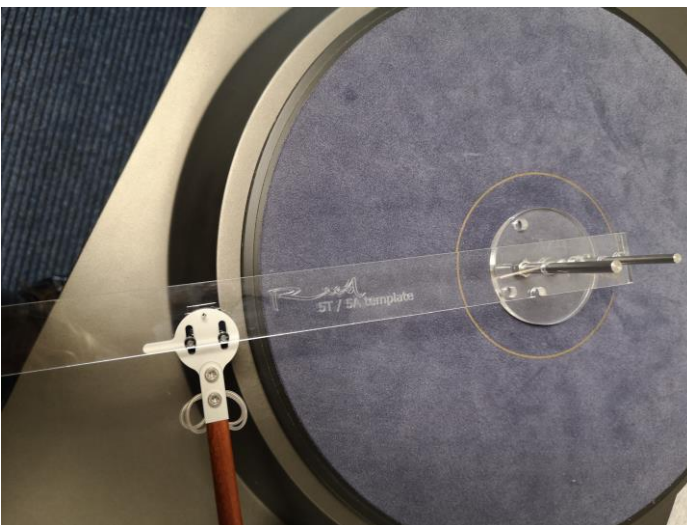

Figure 26
- Check tonearm setup using Reed 5T-5A template [2] (Figure 2). Template's small hole should be aligned with small hole in the headshell and the needle of the cartridge (Figure 26). Max allowed deviation is +/- 1 mm. If deviation is bigger, please check your tonearm setup according to steps 2-a, 2-b, 2-c, 2-d and 2-e of this manual.